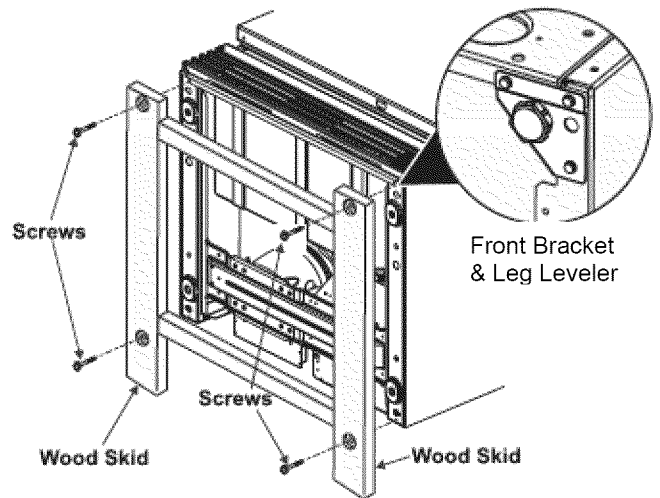
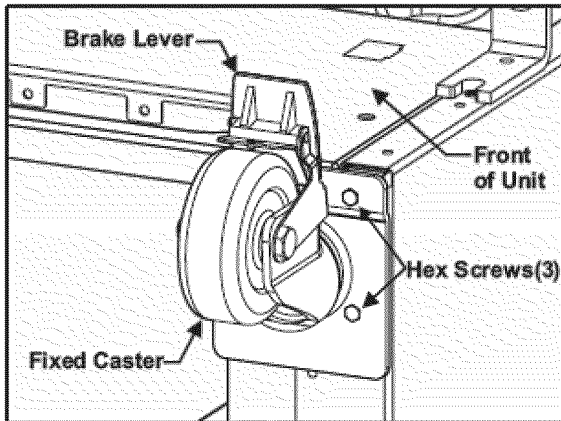

Figure 1
Figure 3
- Using a 3/8” wrench remove four screws holding the wood skid to the bottom of the unit. Discard the wood skid and screws. See Figure 1.
- Remove and discard the two front brackets with leg leveler using a 5/16” socket wrench. See Figure 1.
- Locate and align fixed caster (with brake lever facing front of unit - see Figure 3) over the same mounting holes from front brackets in Figure 1 using six hex screws (3 for each caster). Secure the screws snug using a 3/8” open end wrench. Repeat the same procedure for opposite corner. **DO NOT OVERTIGHTEN.**